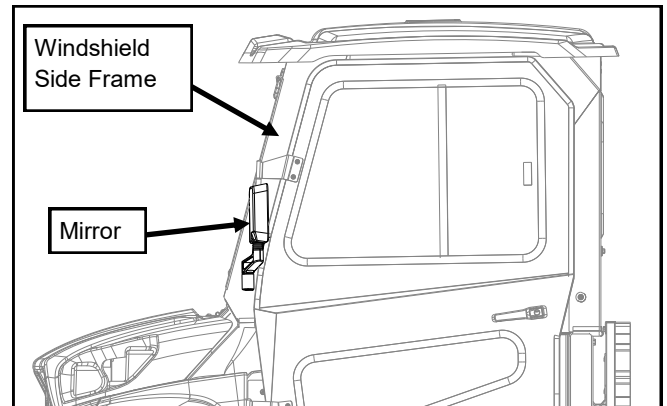
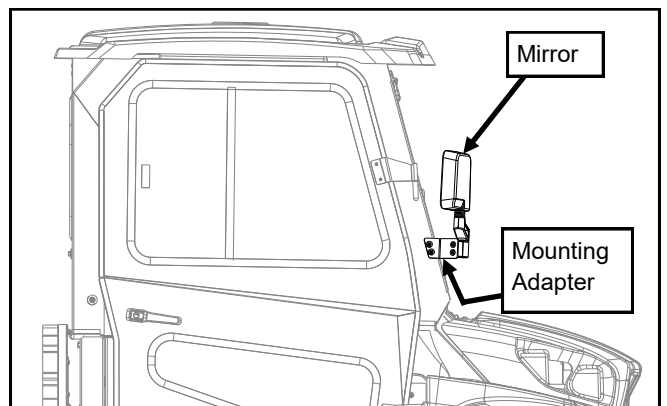

Fig. 14a
Fig. 14b
14. Driver will view the right side mirror through the windshield. For driver's side, see fig. 14a. For passenger's side, see fig. 14b.